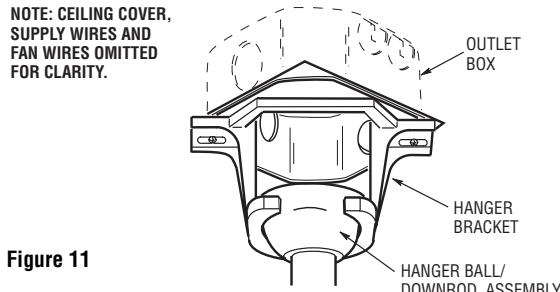

Figure 11
- 2. Carefully lift the fan and seat the hanger ball/downrod assembly on the hanger bracket that was just attached to the outlet box (Figure 11). Be sure the groove in the ball is lined up with tab on the hanger bracket (Figure 11).